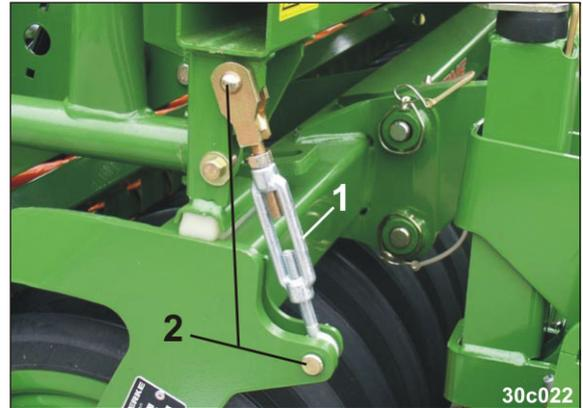

Fig. 111
7. Fasten the pack top seed drill onto the roller with 2 turnbuckles (Fig. 111/1).
8. Secure each pin (Fig. 111/2) with a cotter pin.